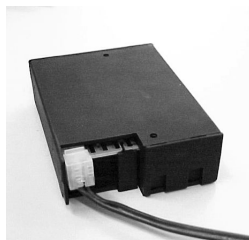

fig. 8
- Connect the wires to the connectors on the gas control valve. The different sized plugs correspond with the connectors on the gas control valve (fig. 8).